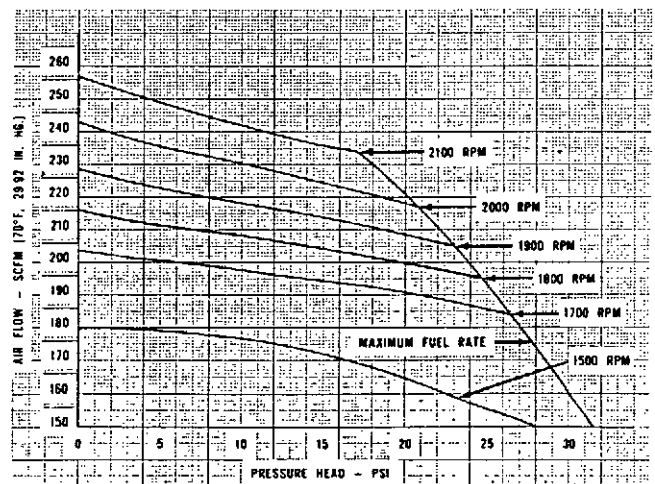
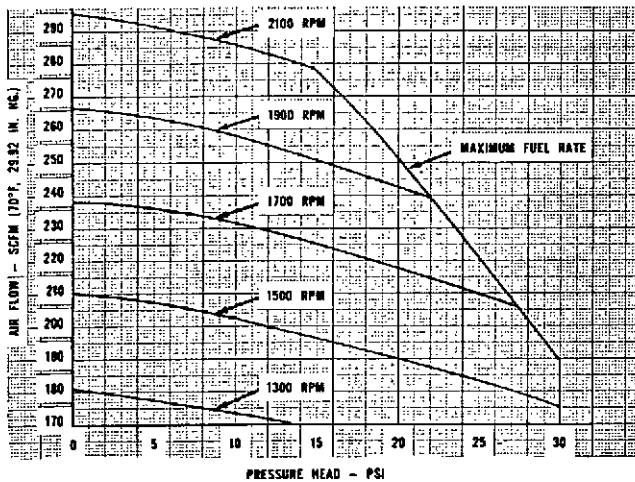

Fig. 2-12, N11837. Air flow — NH-220 Engine
Fig. 2-13, N11838. Air flow - NH-250 Engine
2. Once pressure is determined, refer to Fig. 2-12 (NH-220) and Fig. 2-13 (NH-250) for maximum engine speed required. For example, to obtain a 17 psi [1.1951 kg/sq cm] pressure head, NH-220 can be set at 2100 RPM, which gives a flow of 234 CFM. For the NH-250, a maximum